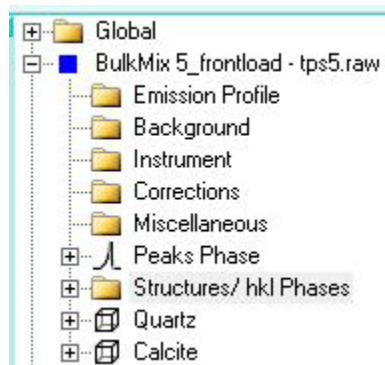

Figure 19. Structures present in parameter window under range tree
- Now when the scan is expanded in the parameter window a mineral structure is included at the bottom (Figure 19).